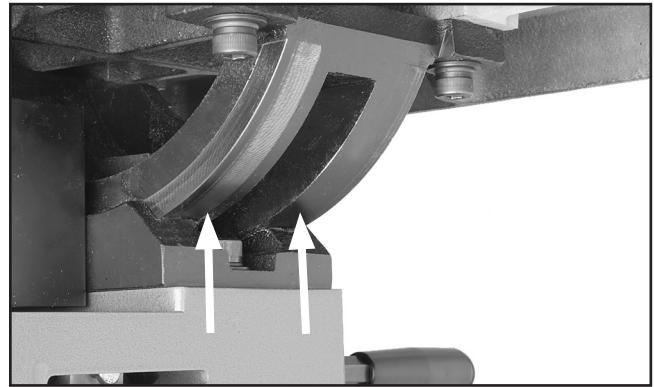

Figure 60. Trunnion lubrication location.
3. Apply a thin coat of light all purpose grease to the trunnions (Figure 60).